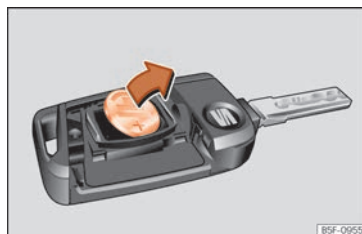

Fig. 95 Vehicle key: removing the battery.
- Extract the battery from the compartment using a suitable thin object »» Fig. 95.
- Place the new battery in the compartment as shown »» Fig. 95, pressing in the opposite direction to that shown by the arrow »» ❷.